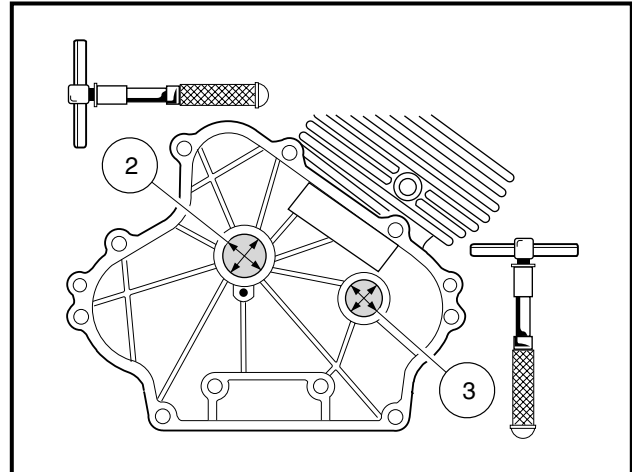
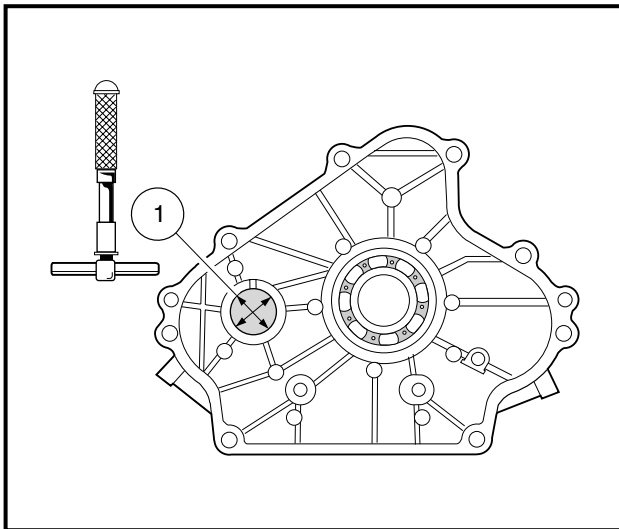

Figure 13-90 Inspect Bearing Surfaces in Crankcase
Figure 13-91 Inspect Camshaft Bearing Surface in Crankcase Cover
1. Inspect the camshaft surfaces, one in the crankcase (3) (**Figure 13-90, Page 13-42**) and the other in the crankcase cover (1) (**Figure 13-91, Page 13-43**). Using an inside micrometer or telescoping gauge, measure the inside diameter of each bearing surface. If the inside diameter is greater than 0.9080 inch (23.063 mm), replace the crankcase and/or the crankcase cover.
2. Inspect the crankshaft bearing surface (2) in the crankcase. Using an inside micrometer or telescoping gauge, measure the inside diameter of the bearing surface. If the inside diameter is greater than 1.1841 inch (30.075 mm), replace the crankcase (**Figure 13-90, Page 13-42**).